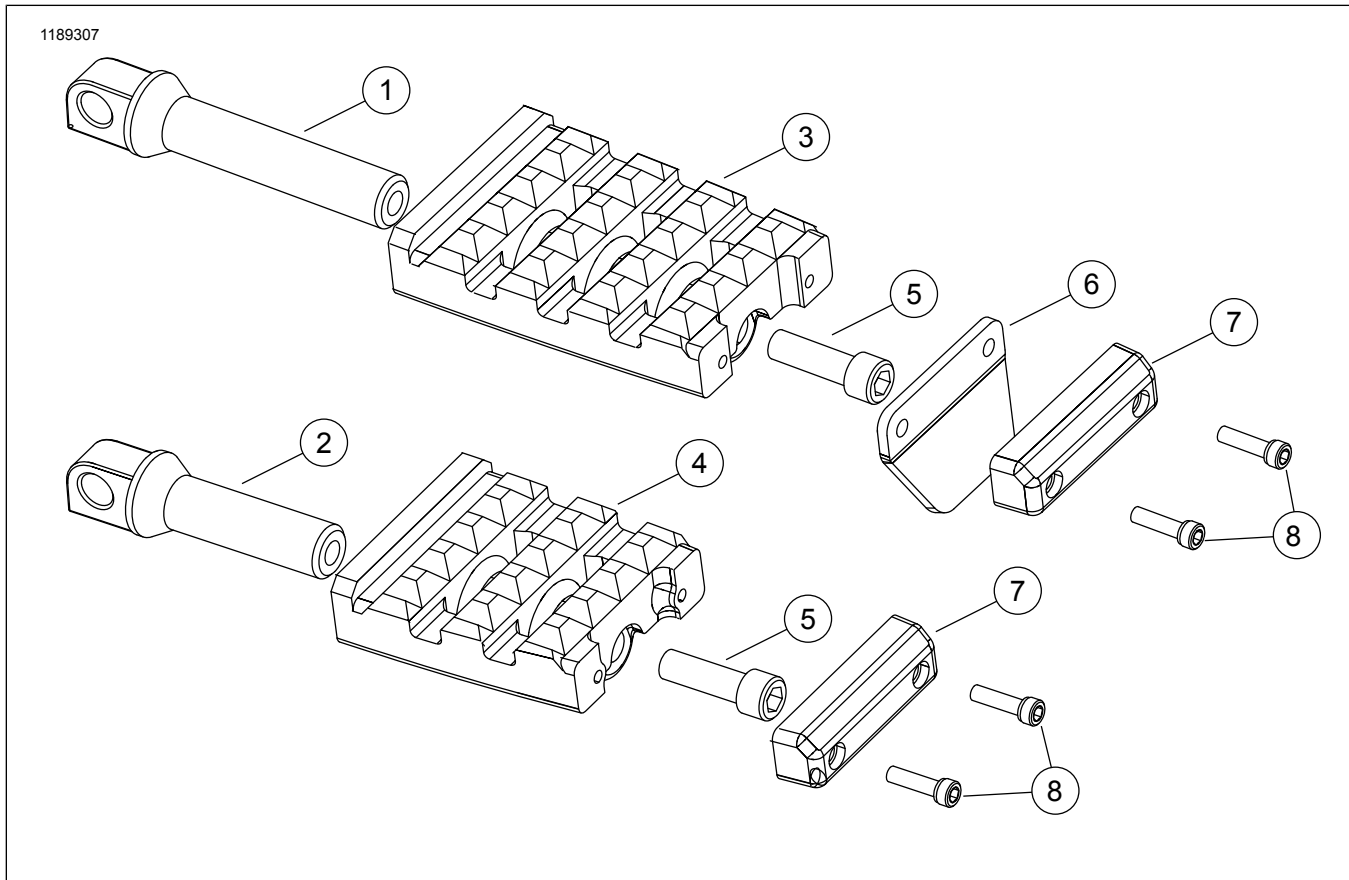

Figure 2. Service Parts
See Figure 2 and Table 1.
5. See Figure 2. Adjust orientation as follows:
- a. Remove two screws (8) and foot peg trim (7).
- d. Secure adjustment screw (5). Tighten.
1. See Figure 2. Remove two screws (8).
2. Replace trim (7) or wear peg (6) as applicable.
3. Apply one drop of threadlocker to each screw (8).
4. Install screws (8). Tighten.